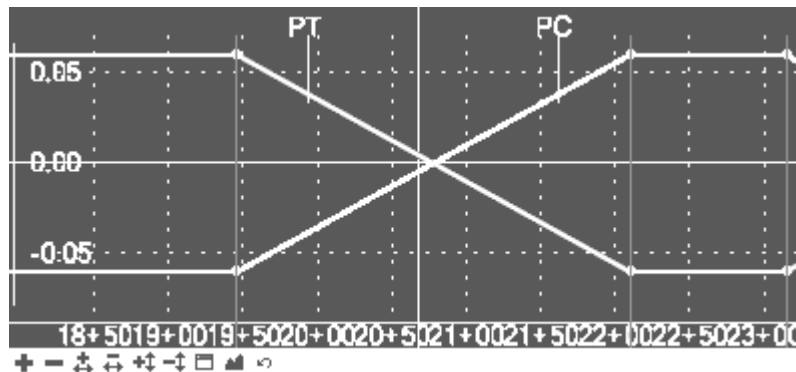

Figure 8-3 View of Superelevation with no overlap
- C. To delete multiple points, use the mouse cursor. Click and hold down and drag the mouse to create a fence around all points in the transition overlap area. When the mouse button is released, the points inside the window will be deleted. The image in Figure 8-3 represents super control lines with no overlap.